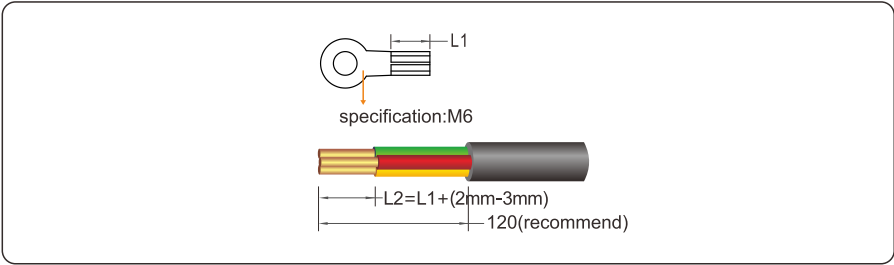

Figure 5.4 Stripped length (unit: mm)
Step 1 Remove an appropriate length of the jacket and insulation layer from the AC output cable, as shown in Figure 5.4.